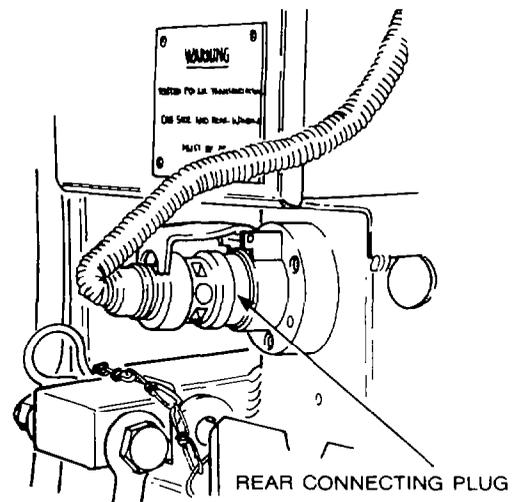

Figure 6 — Module Wiring — Disconnection
- f. Disconnect the four electrical connectors on the left hand rear of the cab and the one connector at the right hand rear of the chassis (see Fig. 6).